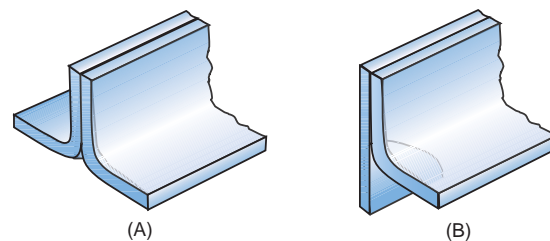

FIGURE 5-3 Edge joints. © Cengage Learning 2012
- **Edge joint**—In an edge joint the metal surfaces are placed together so the edges are even. One or both plates may be formed by bending them at an angle, Figure 5-3. Edge joints are usually welded only on one side.